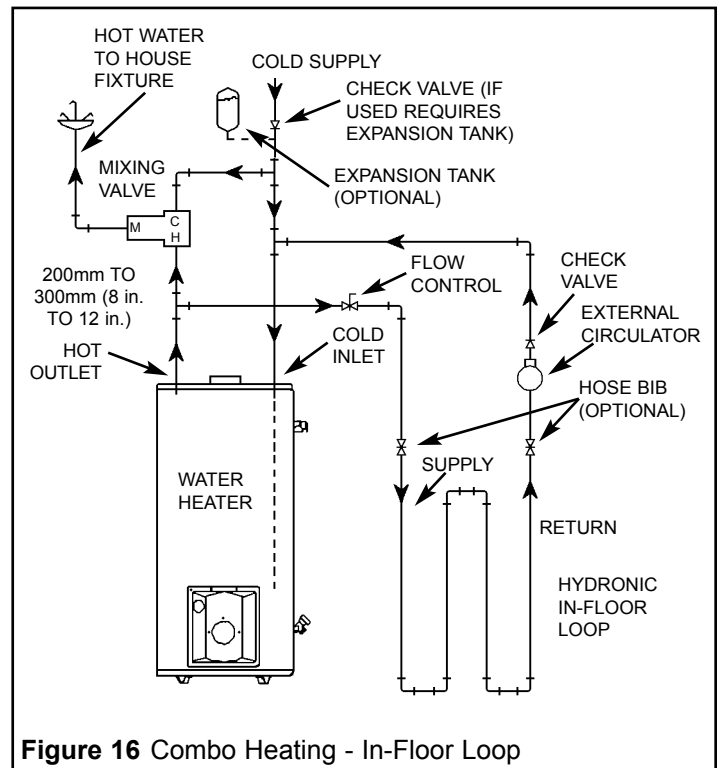

Figure 16 Combo Heating - In-Floor Loop
3. A hydronic in-floor heating loop (Figure 16).